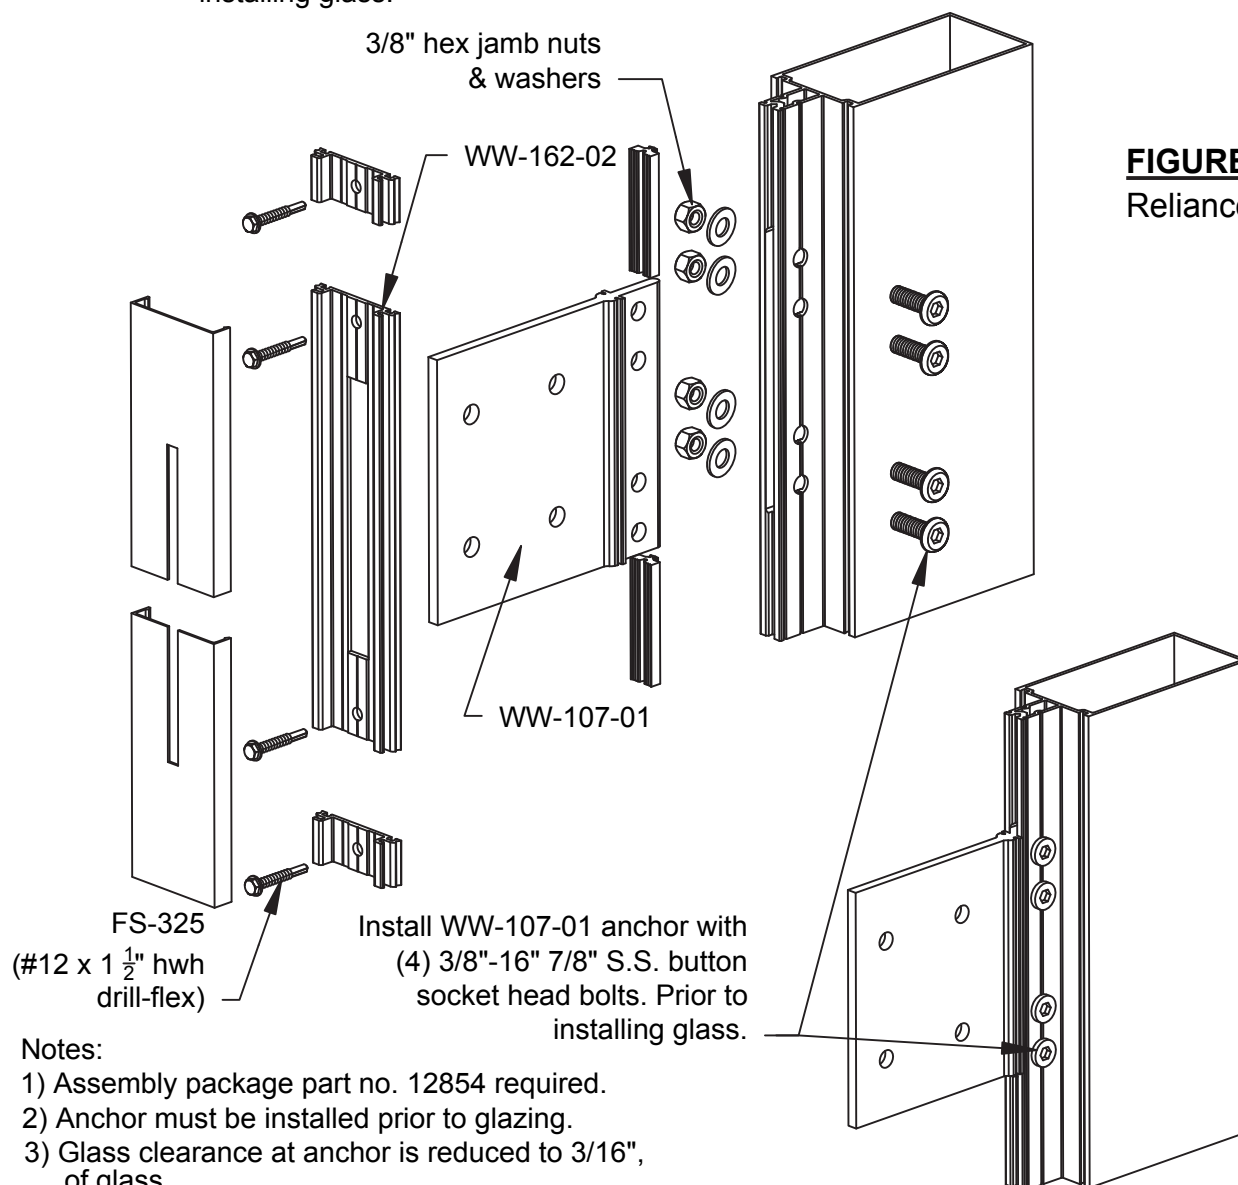

FIGURE 7
- 10) Hardware required for attachment of standard anchor (WW-107-01) will be contained in the hardware package, (part. no. 12854). This package contains (1) one WW-162-02 cover plate, (4) four 3/8"- 16 x 7/8" stainless steel button socket head bolts, nuts and washers and (4) four 3/8"-16 x 1-1/4" stainless steel hex head bolts, nuts and washers. (Size and quantity of bolts may vary based on project requirements, consult engineer for specific job applications).
- 11) Attach anchor to mullion by first inserting anchor into cutout in face of mullion tongue. Attach anchor using the 3/8"-16 x 7/8" S.S. button socket head bolts, washers and securing using the 3/8"-16 S.S. jamb nuts. Repeat for each of the 4 bolts. See **FIGURE 7** (Size and quantity of bolts may vary based on project requirements, consult engineer for specific job applications).
- 12) Once system is glazed. Install section of GP-103 gasket onto WW-162-02 cover plate and install plate over anchor attaching to mullion using (2) two FS-325 (#12-14 x 1-1/2" HWH Drill-Flex fasteners).